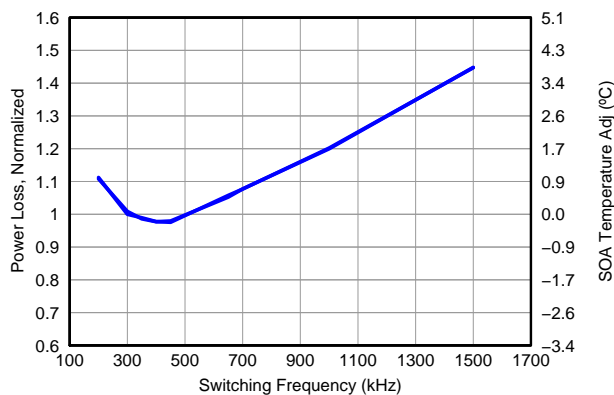

Figure 6. Normalized Power Loss vs Switching Frequency
- Normalized Power Loss for switching frequency ≈ 1.2 (Figure 6)
- SOA adjustment for switching frequency $\approx 1.2^\circ\text{C}$ (Figure 6)